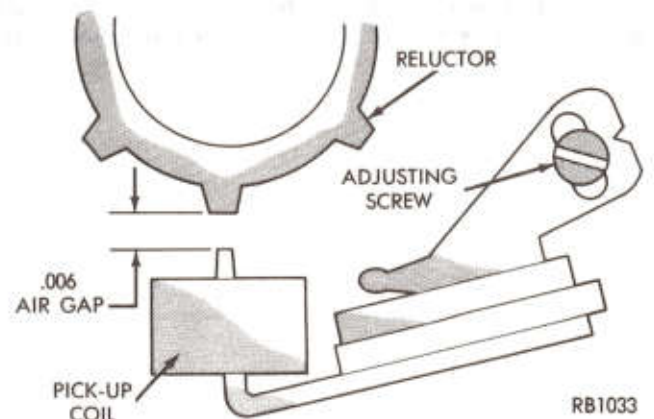

Fig. 13—Pick-Up Coil Air Gap
(23) If pick-up is shorted replace it and adjust air gap (Fig. 13). **See air gap adjustment** this group.